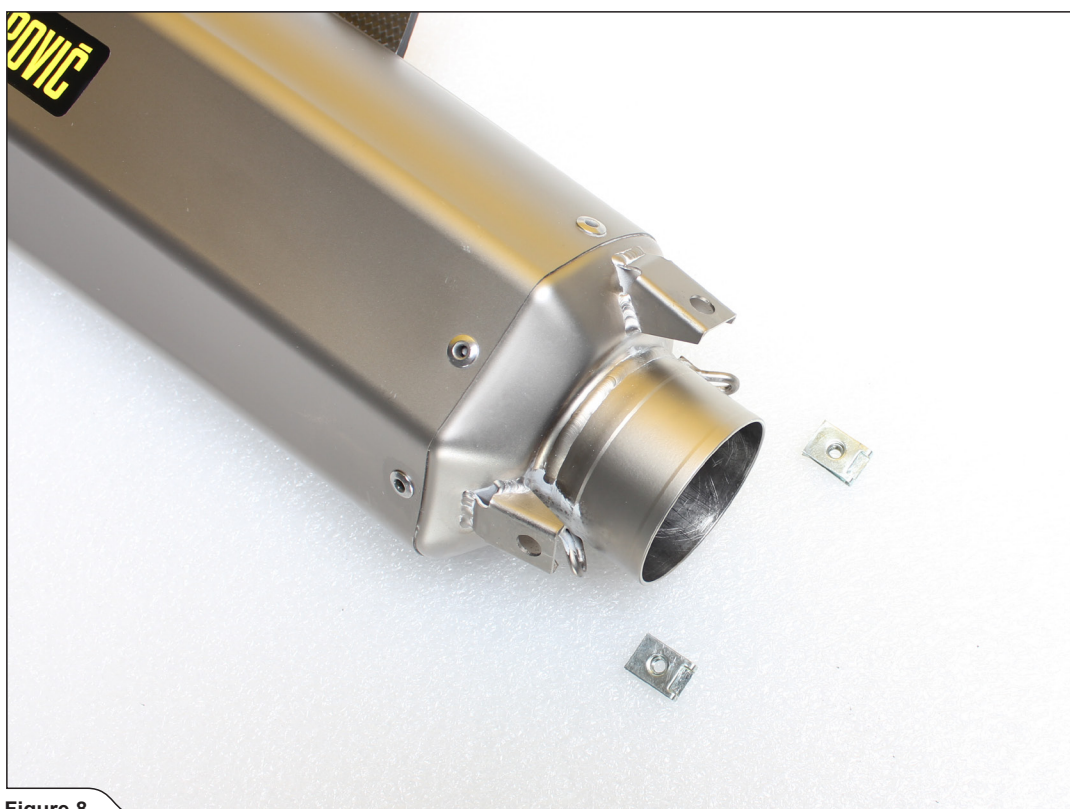

Figure 8
- Install the two Akrapovič press on nuts from Akrapovič installation kit on the muffler. (Figure 8).